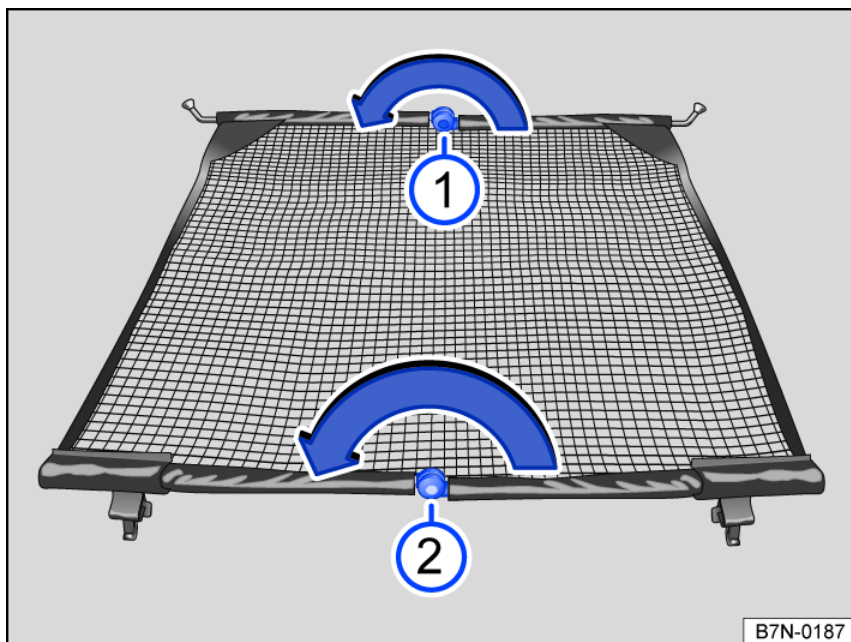

Fig. 155 Folding in the net partition.
- Press the release button and, with the release button held down, fold in the crossbar in the direction of the arrow fig. 155 ①.
- Repeat the process with the other release button ②.